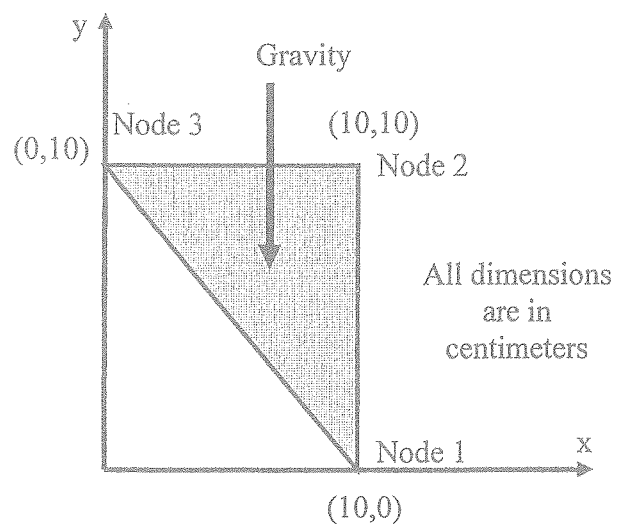

Figure Q4
- c) The CST element of thickness $t \text{ mm}$, shown in Figure Q4, is under the plane stress condition. It has a Young's modulus of $E \text{ GPa}$, specific weight $\gamma \text{ kN/m}^3$ and zero Poisson's ratio. Considering plane stress conditions, find the;